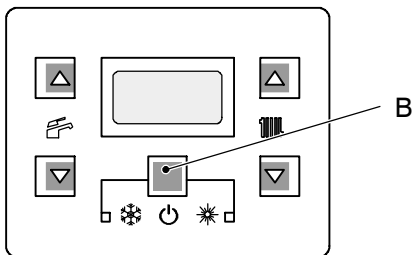

Fig. 9.10
- 6 To memorize the setting press the key (B Fig. 9.10)